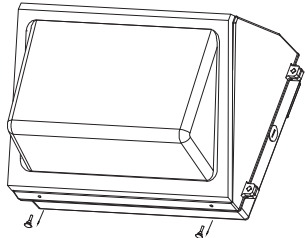

figure 4
Step 4 Remove the 2 drain plugs from the housing. Close the diffuser door and lock it with the 2 diffuser door screws. (figure 4)